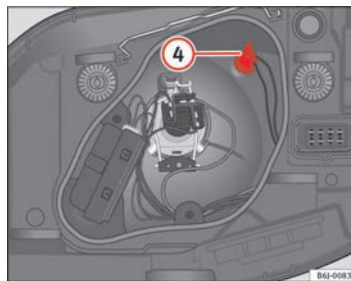

Fig. 148 Side lights
- Remove the bulb holder ④ ⇒ page 217, fig. 148 outwards.